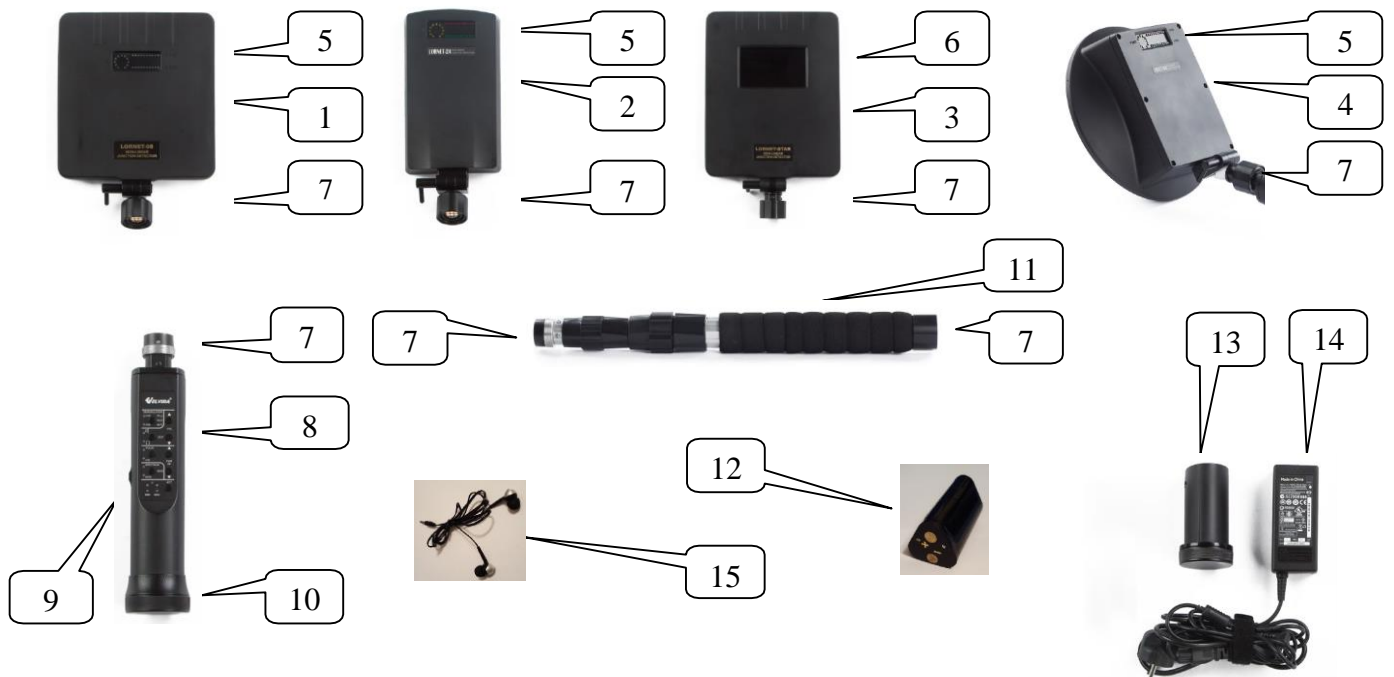

Fig. 1, where:
3.3. Appearance of NLJD items is shown in Fig. 1
Li-Ion battery (12 V) (Fig.1) of black color is designed to operate with a standard charger supplied with NLJD «LORNET-STAR».
It is strictly FORBIDDEN to use Li-Ion batteries (12 V) (Fig.1) of black color instead of Li-Ion batteries (3.7 V) of blue color used in NLJD «LORNET», «LORNET-24», «LORNET-36» and «LORNET-0836».